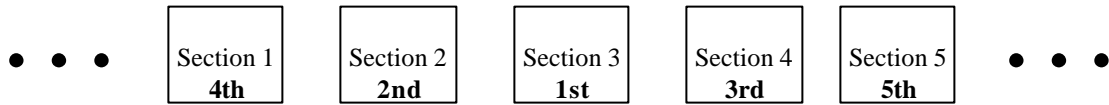

Figure 3. Section Torque-Down Sequence
- 4.8 Torque down the remaining magnet bars according to the diagram in **Figure 3**. For example, begin with Section 3, then Section 2, then Section 4, then Section 1, and then Section 5.